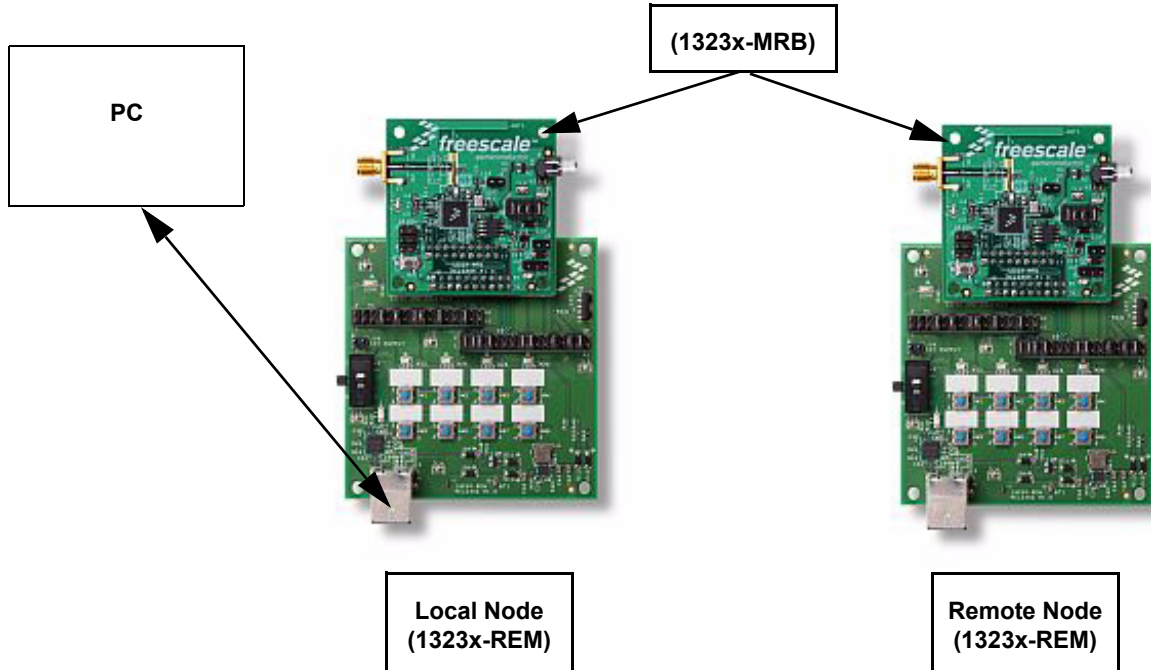

Figure 7-5. Example Board Orientation and Placement for Calibration
1. To begin the LQI test, place the boards used as the Local and Remote nodes close to each other so the application can calibrate. The boards should be one next to each other for calibration as shown in Figure 7-5.
2. After the local and remote node boards are programmed, powered on and set at the distance as shown in Figure 7-5, click on the “Calibrate...” button in the Range Demonstration application main window and wait for the calibration to complete.